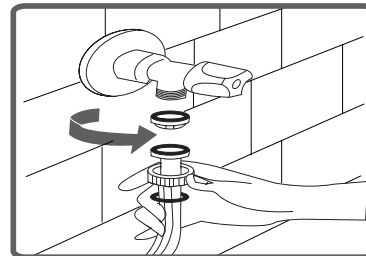

Fig 8
**2:** The straight connection attaches to the water supply valve. (Fig 8)